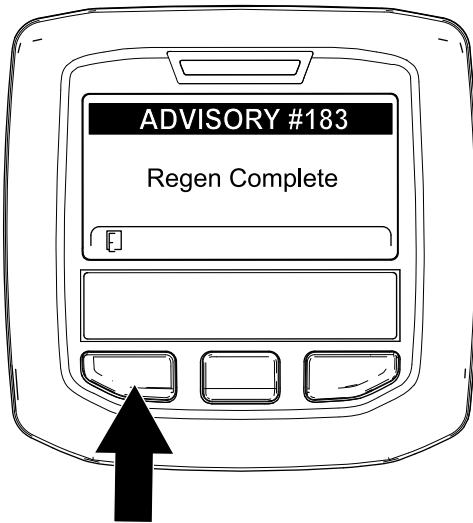

Figure 90
displays ADVISORY #183 (Figure 90). Press the left button to exit to the home screen.
**Note:** If the regeneration fails to complete, the InfoCenter displays Advisory #184 (Figure 90). Press the left button to exit to the home screen.